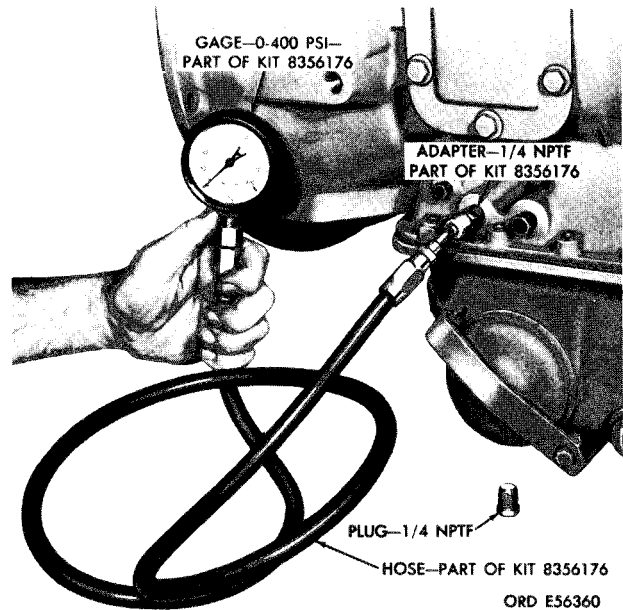

Figure 5-143. Pressure gage attached to $\frac{1}{4}$ NPTF pressure check point (gage, adapter, and hose are part of kit 4910-572-8612 (8356176)).
(2) The 0-400 psi gage, hose, and fittings from oil gage kit 4910-572-8612, and the method of attaching are shown in figure 5-143.